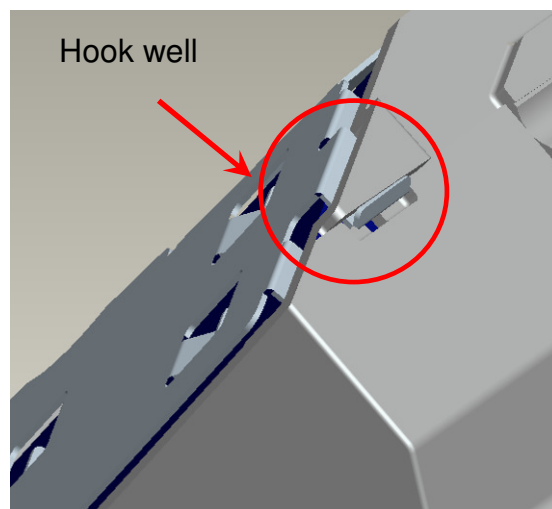

Fig. 3-15
- (3) To check and make sure Clip CM hooks the Sub HSG Well (Fig. 3-15).
- (4) Paste "Mylar Cover Sub" to cover "Clip CM" and "Sub HSG" (Fig. 3-15).
- (5) Paste "Sponge tube AL" on cannellure of "Sub HSG" (Fig. 3-15).